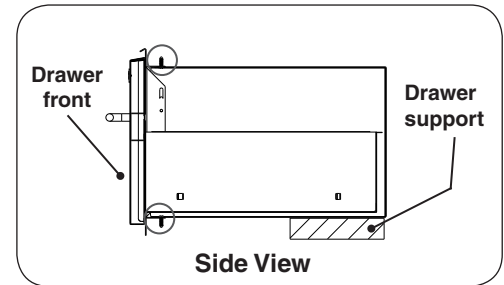

Fig. 2-3 Drawer Installation (Side View)
1. In order to properly support the weight of your drawer, it is necessary to provide a secure, level surface in the rear of the unit. (See Fig 2-3) This may be accomplished by using bricks, 2 X 4's, etc. Be sure that the height of this rear support is $\frac{1}{8}$ " higher than that of the front opening support, so that your drawer sits level.